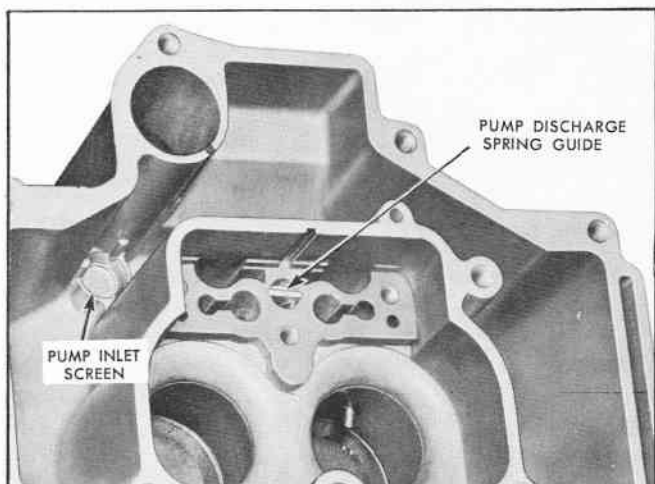

Fig. 14 Pump Discharge Spring Guide and Pump Inlet Screen
7. Using needle nose pliers remove pump discharge spring guide, spring and steel ball (Fig. 14).
8. If required pump inlet screen may be removed for cleaning by prying up retaining ring with a pointed tool (Fig. 14).